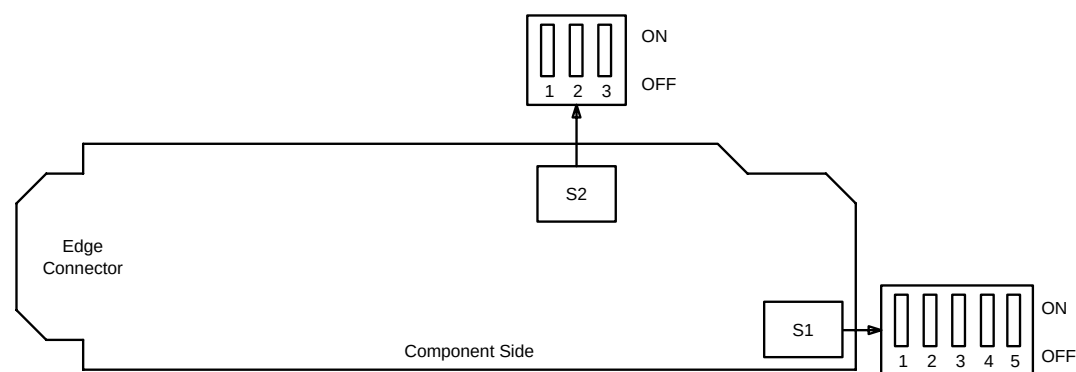

Figure 3. BBF2B TGS/BBF4 TG3 Option Switch
Determine timing mode from work order or office records. Refer to Table F and Figure 3 and set timing mode as required for **BBF2B TGS/BBF4 TG3** circuit pack(s).
11. If the **BBF2B TGS/BBF4 TG3** is provisioned for *Sync Out mode*, refer to Table G and Figure 3 and set equalizer switches for the proper cable length.
13. Refer to Table H and Figure 3 and set DS1 line coding and frame format as required for **BBF2B TGS/BBF4 TG3** circuit pack.